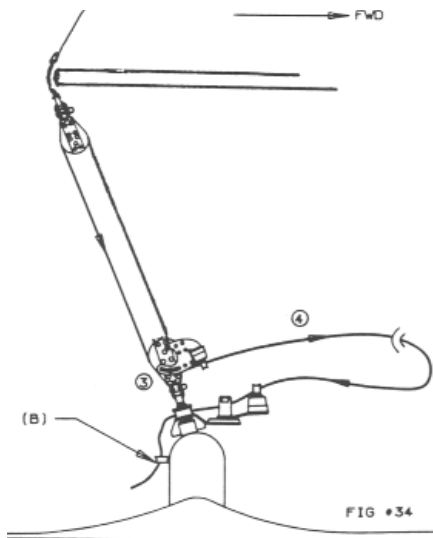

FIGURE 37
20.1 Attach the main sheet system as shown. Tie off the traveler line end (B) with a figure-eight knot. (FIGURE 37)